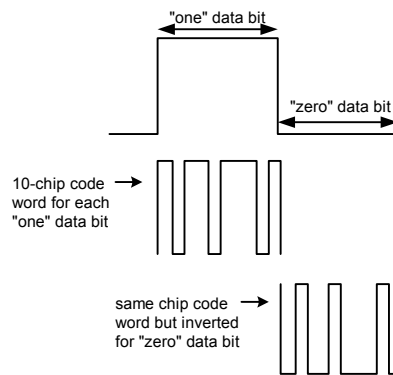

Figure 2. Pseudo Noise Code^[1]
WirelessUSB LS utilizes a 2.4-GHz direct sequence spread spectrum (DSSS) radio interface. DSSS generates a redundant bit pattern for each bit to be transmitted. This bit pattern is called a "chip" or a pseudo noise code. Notice in Figure 2 that the pseudo noise code is a binary signal that is produced at a much higher frequency than the data that is to be transmitted. Because it has a higher frequency, it has a large bandwidth that spreads the signal in the frequency domain (i.e., it spreads its spectrum). The nature of this signal makes it appear that it is random noise.
- Figure 2 shows the concept of PN Codes using 10 chip PN codes for illustration purposes only. The LS uses 32 chip and 64 chip PN Codes.